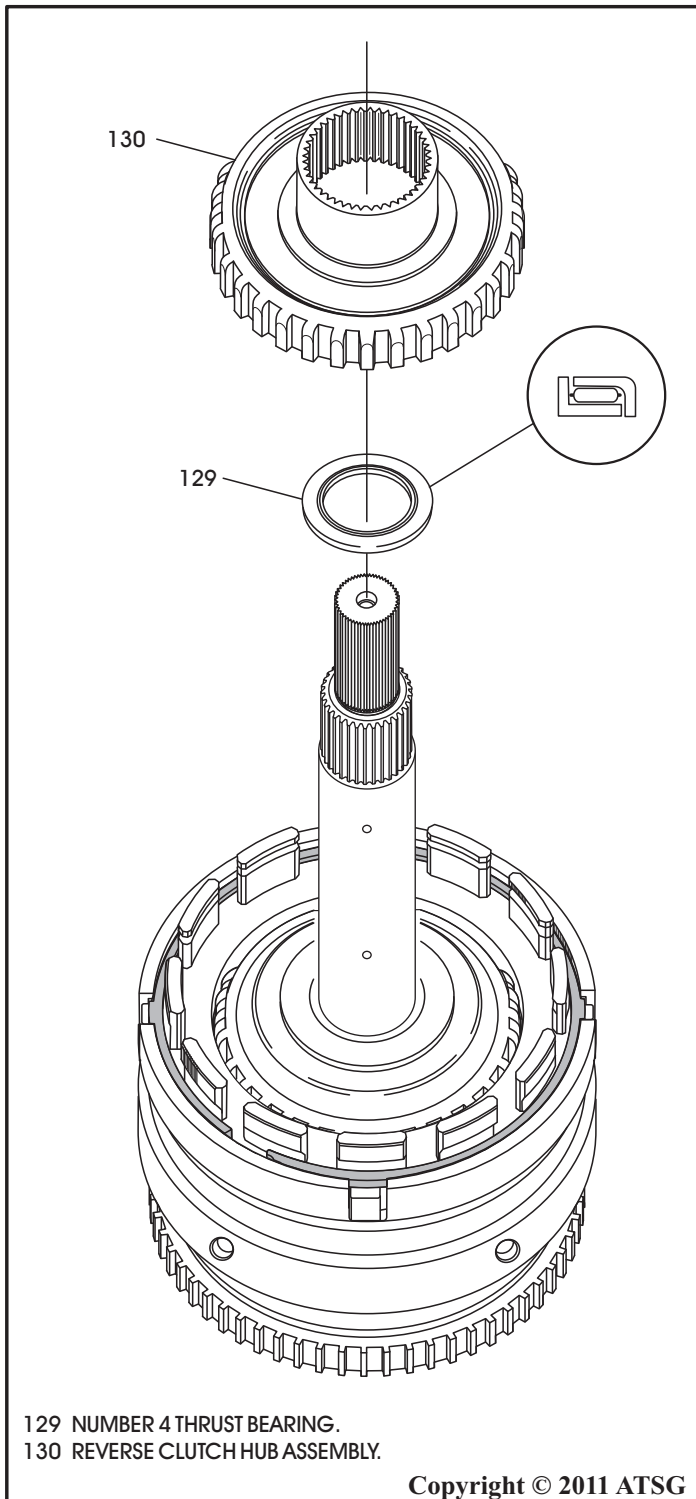

Figure 106
46. Install the number 4 thrust bearing into reverse clutch hub, in the direction shown in Figure 106, and retain with small amount of TransJel®.
47. Install the reverse clutch hub assembly into the input housing over both shafts, as shown in Figure 106.